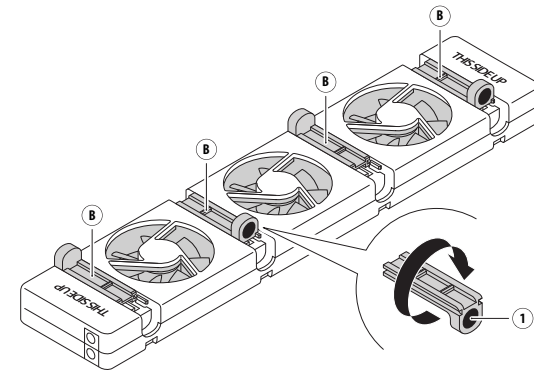

Fig. 3 – Repositioning the adjustable magnets in the SpeedComfort (A)..
- Turn the **adjustable magnets** (B) so that the magnet (1) is positioned at the top (see Fig. 3). Make sure there are two magnets on each side. Remove the **dummy block** (K) located opposite the adjustable magnets inside the housing. Dispose of the block as plastic waste.
- Adjust the adjustable **magnets** (B) to the correct width.
- Follow the same steps 1 and 2 as for the wide radiator. Use the adjustable magnets (B) to secure the **SpeedComfort** (A) between the panels (see Fig. 3 and 4). You can align the SpeedComfort with the front edge of the radiator.